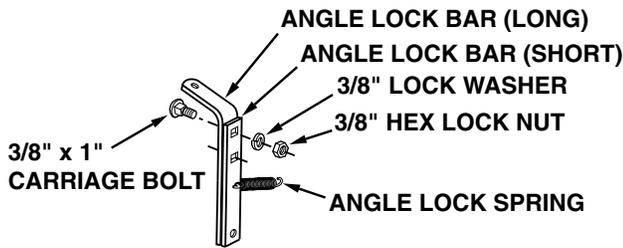

Figure 3
10. Assemble the long and short angle lock bars together using two 3/8" x 1" carriage bolts, 3/8" lock washers and 3/8" hex lock nuts. Make sure all holes are aligned. See figure 3.
11. Insert the straight hook end the angle lock spring into the middle hole in the angle lock bars. The curved hook on the other end of the spring should be facing up. See figure 3.